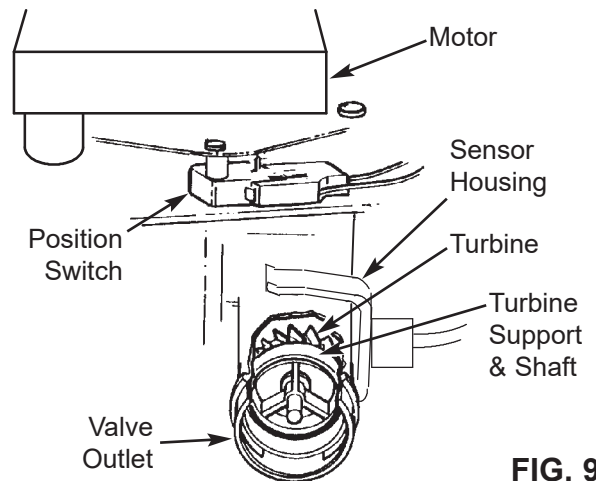

FIG. 94
6. If the display reading does not change with the faucet open, pull the wire harness from the valve outlet port (See Figure 94).